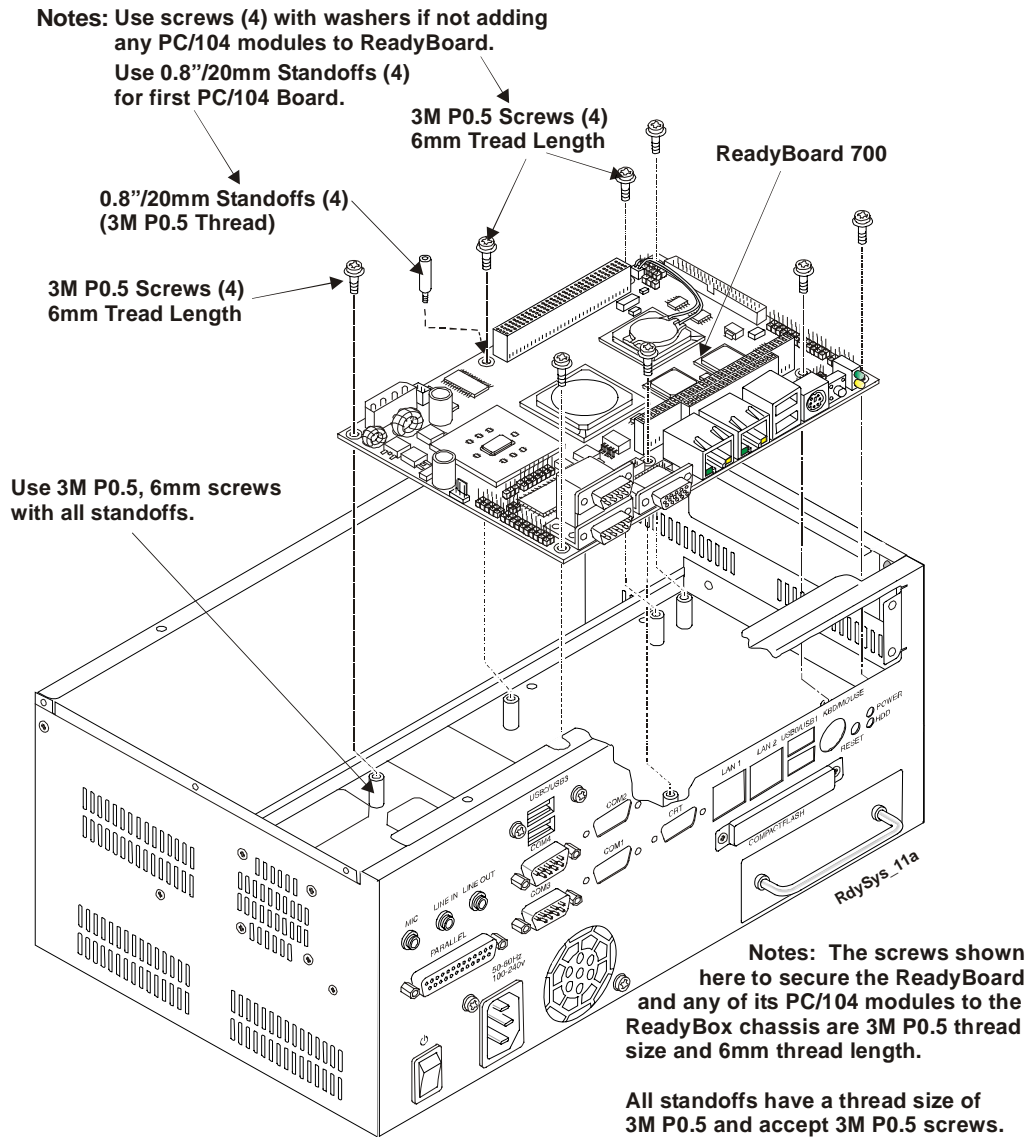

Figure 4-8. ReadyBoard Over Chassis Standoffs
8. Insert four M3 P0.5 6mm screws, with washers, into the standoffs on the enclosure shelf at the four corners of the board. See Figure 4-8.
9. If you are putting a PC/104 board onto the ReadyBoard, insert the four 0.8" (20mm) standoffs provided with the ReadyBoard at the four PC/104 mounting locations. See Figure 4-8.